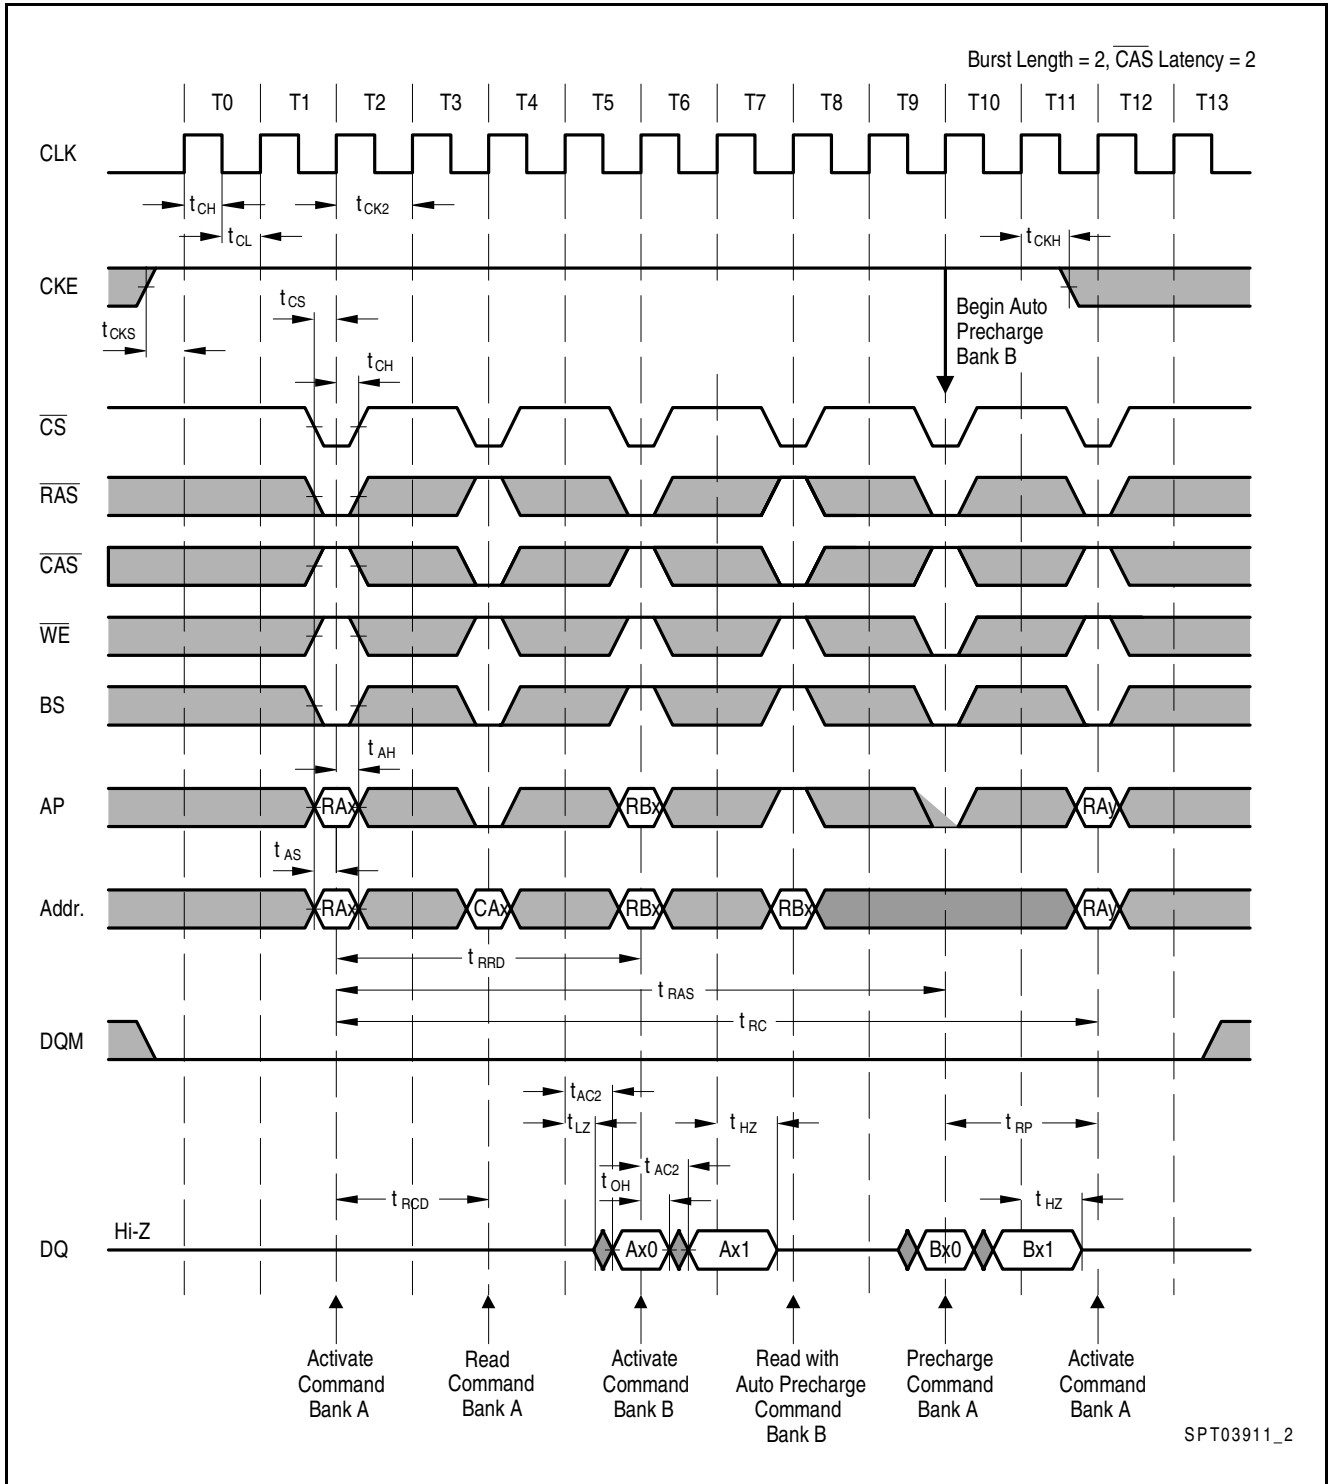

Figure 17 AC Parameters for a Read Timing
- **Figure 17** AC Parameters for a Read Timing